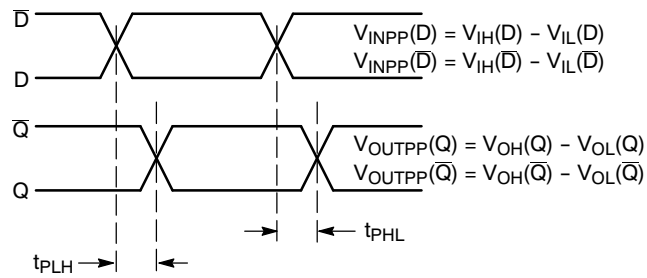

Figure 12. AC Reference Measurement
26.  $t_{SKEW} = |t_{PLH} - t_{PHL}|$  for a nominal 50% differential clock input waveform. See Figure 12.
29.  $t_{SKEW} = |t_{PLH} - t_{PHL}|$  for a nominal 50% differential clock input waveform. See Figure 12.